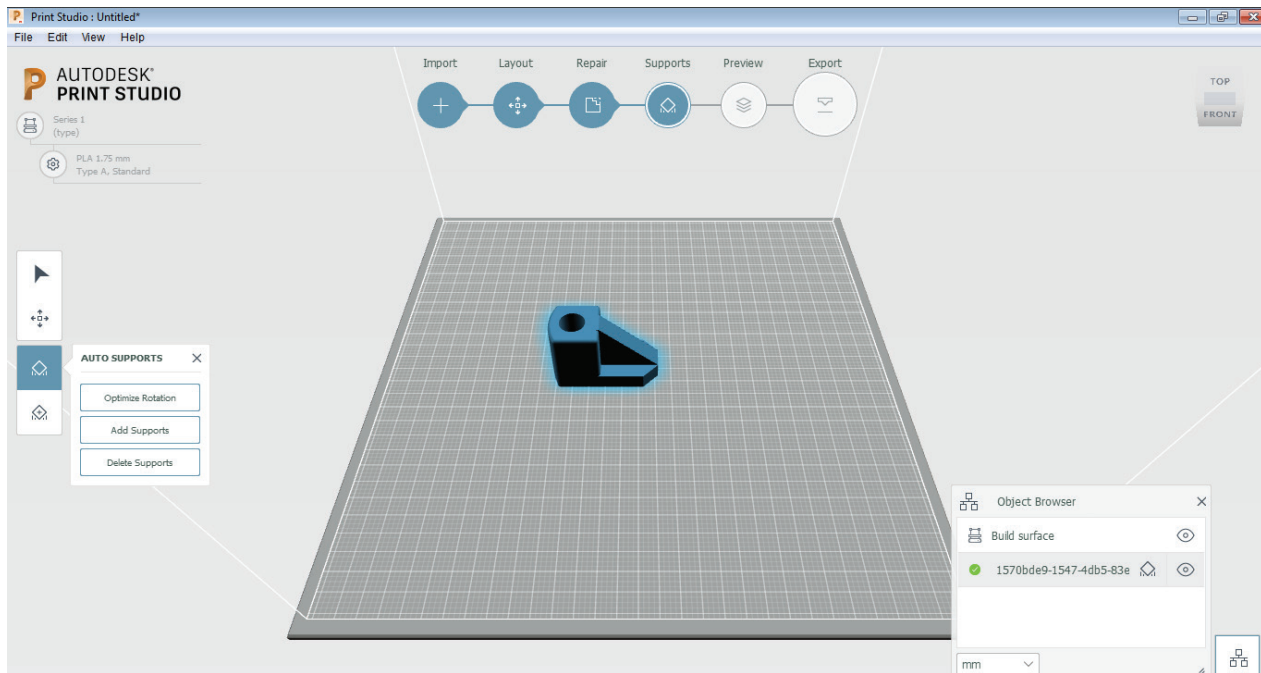

Figure-41. Print Studio Window
- In our case, we have selected **Print Studio** option from the **Print Utility** drop-down (Needless to say, we have installed it also). Click on the **OK** button from the dialog box. The **Print Studio** application window will be displayed; refer to Figure-41.